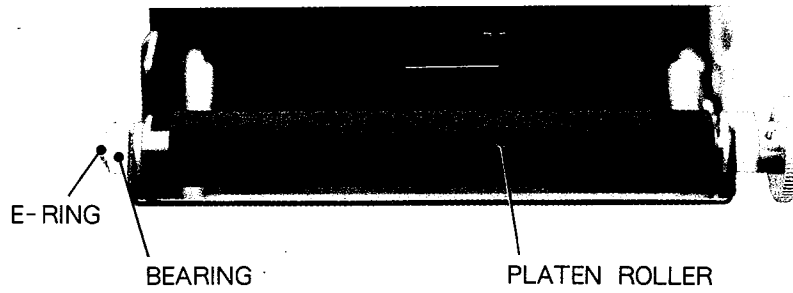

Fig. 11
2. Remove an E-RING on the left side of the PLATEN ROLLER. (Fig. 11)
3. Remove BEARINGS. (Fig. 11)